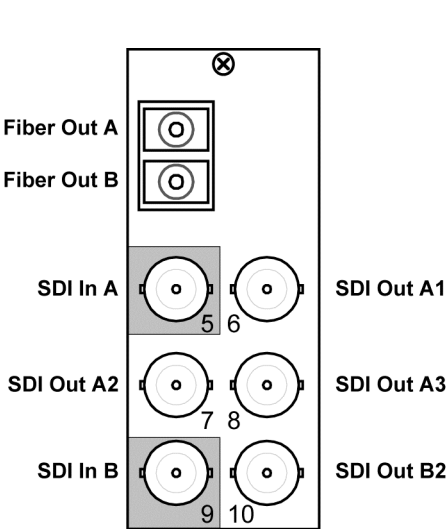

Figure 2.7 Cable Connections for the **RM20-9214-B** Rear Module
- **RM20-9214-B Full Rear Module** — Each 9214-2EO occupies two slots and provides two optical outputs, two SDI inputs, and four SDI outputs. **Figure 2.7**